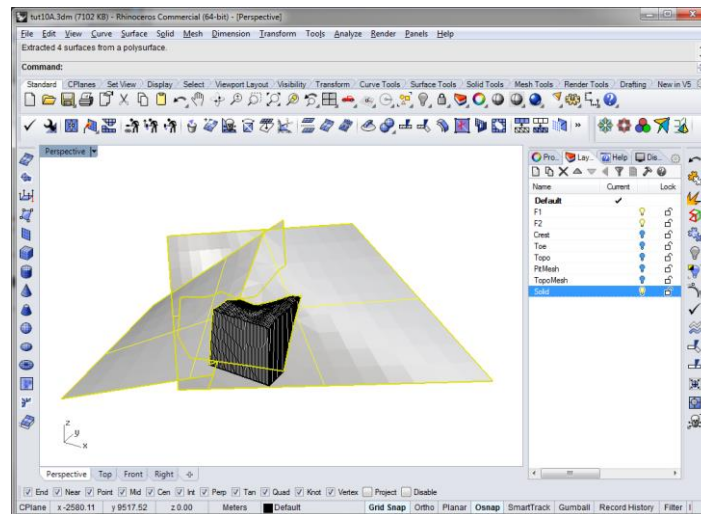

Figure 164: Extracting the exterior portions of the faults.
4. **_ExtractSrf, (option Copy = No)**, and click on any portions of the faults sticking outside the computational domain, followed by <ENTER> to complete the surface extraction (Figure 164).